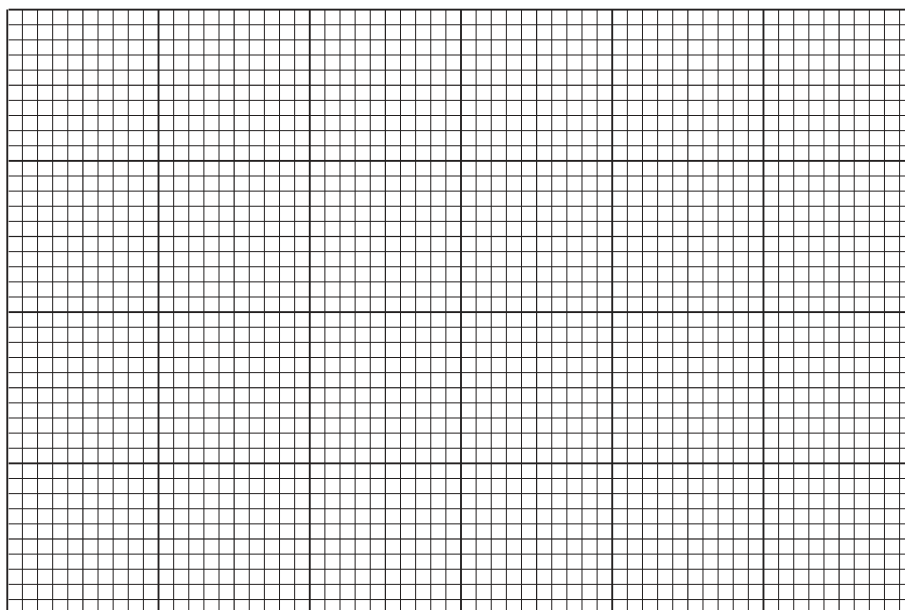

Fig. 1.6
- (i) Plot a graph of the data in Table 1.5 on the grid in Fig. 1.6.